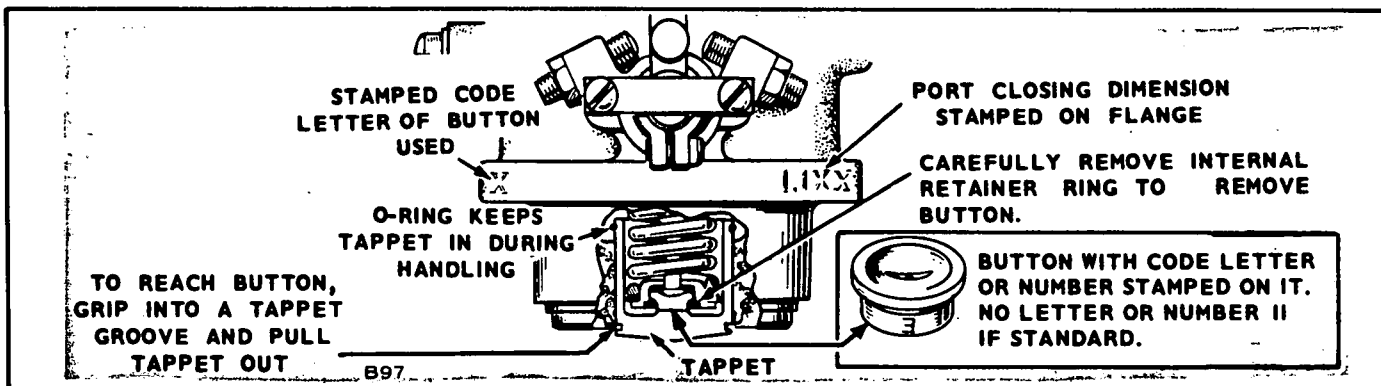

FIGURE 17. INJECTION PUMP BUTTON INSTALLATION
When removing the pump for replacement, record the button thickness and port closing dimensions stamped on the side of the pump mounting flange (Figure 17). These values are important in timing the new pump to the engine.
Install the correct button in the pump (Figure 17) and install the pump following the instructions under Injection Pump Installation.
- Remove the pump and insert the proper timing button (Figure 17).